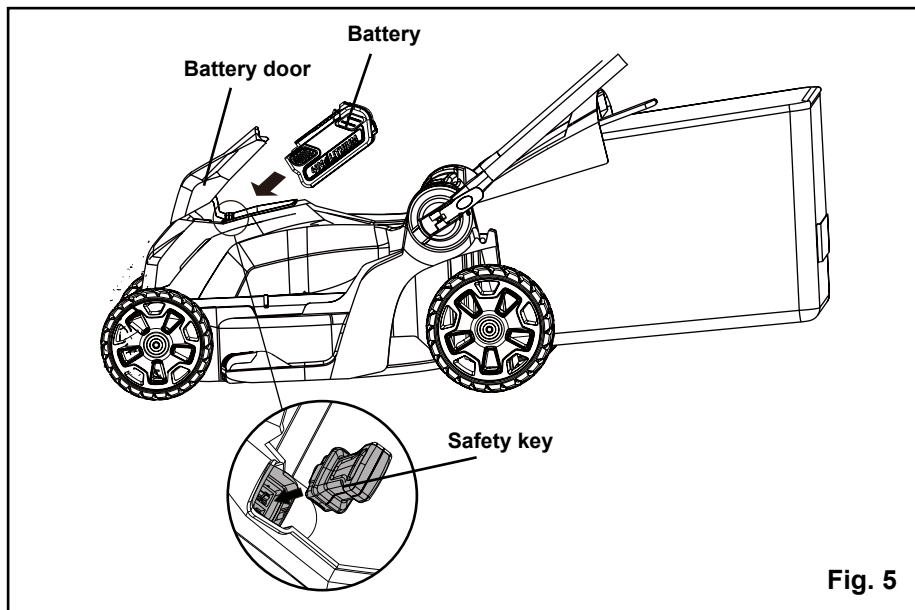

Fig. 5
TO INSTALL BATTERY PACK (See Figure 5)
TO REMOVE BATTERY PACK (See Figure 5)
- Open the battery door and insert the battery. (See Fig. 5)